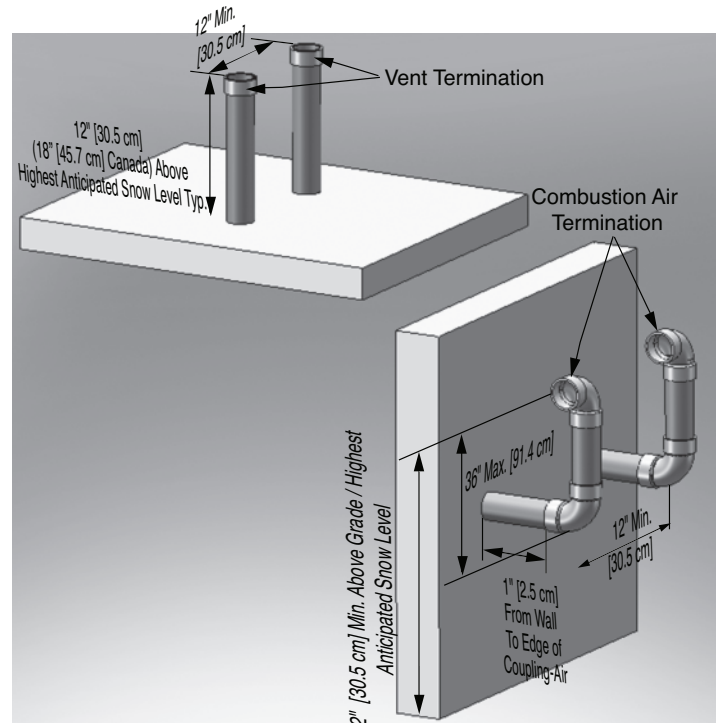

Fig. 17: Direct Vent - Vertical Termination of Vent and Sidewall Termination of Combustion Air of Multiple Appliances
2. Each vent and combustion air termination must be a minimum 12" [30.5 cm] from the adjacent termination for installations in the U.S as shown in Fig. 17. For installations in Canada, provide clearances as required by CAN/CSA B149.1.